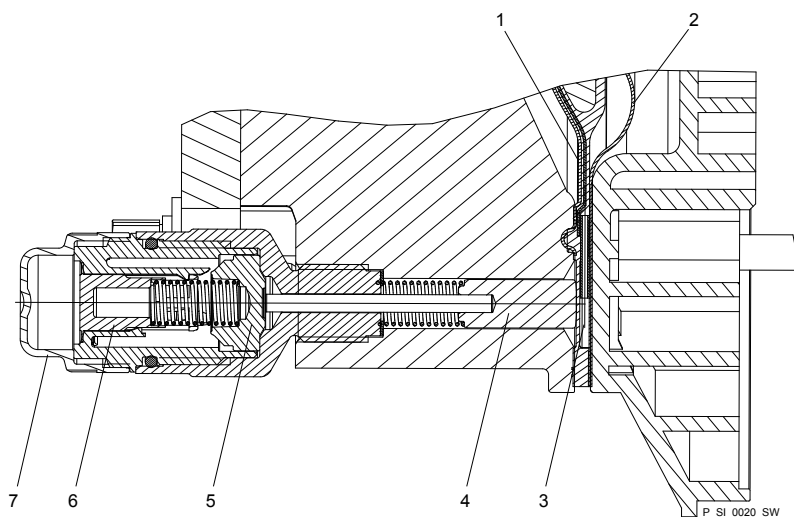

Fig. 23: Section through the Sigma diaphragm rupture warning system ("Visual break indicator" version)
2. If the piston of the diaphragm rupture sensor - see Fig. 23, item 4 - should have become dirty or damp, clean both it and the hole in which it runs.